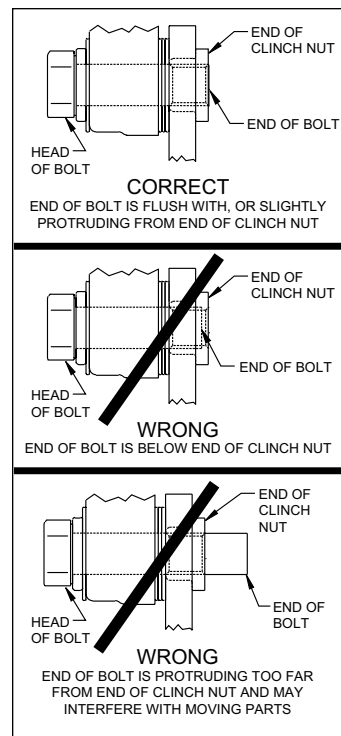

Figure 4. Clinch Nut Engagement Diagram
•**CAUTION:** All mounting bolts must fully engage clinch nuts. Be sure to check that all bolts are either flush or protruding through flanged side of clinch nut after shimming, Figure 4.
protruding from the head of the clinch nut, as shown in Figure 4. If necessary place spare shims between washer (20) and caliper mounting ear to achieve the proper clinch nut engagement. Once the caliper alignment and clinch nut engagement are correct, remove the bolts one at a time, apply red *Loctite*® 271 to bolt threads, and torque to 40 ft-lb.